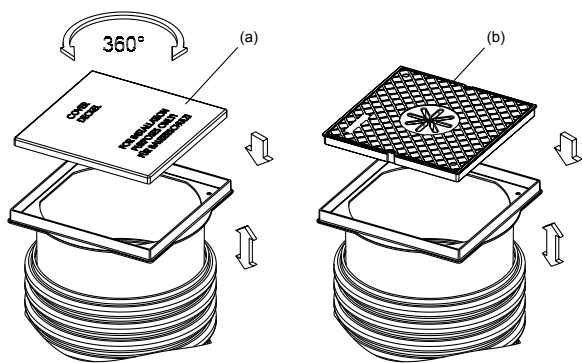

Figure 9: Mounting of upper fitting
1. Insert the white plastic installation cover (a) into the frame of the upper fitting. The cover is only suitable for foot traffic (see Figure 9).